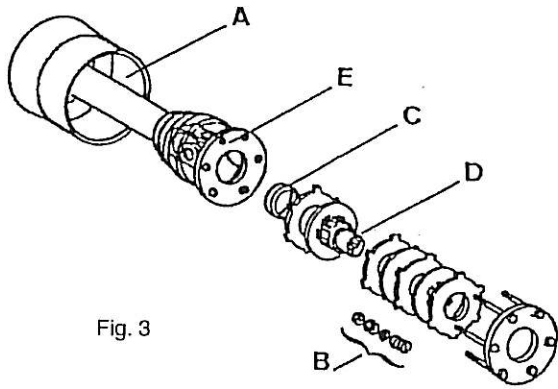

Fig. 3
- Fit the clutch plate (E) on the 6 exposed bolts and secure with the 6 springs, washers and nuts (See Fig. 3). Tighten the 6 nuts fully to ensure correct seating of the clutch components. Then slacken nuts and locknuts until the springs can easily turn by hand, then adjust the clutch following instructions on p. 21.
- Refit the guard (A)